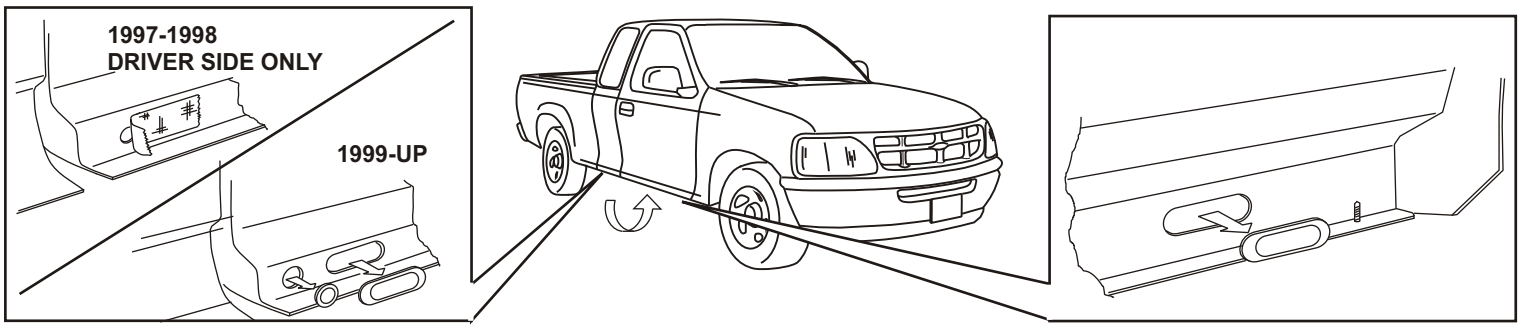

FIGURE 1 - PASSENGER SIDE SHOWN, DRIVER SIDE OPPOSITE
- STEP 2.** Remove black rubber plugs over two holes (three on '97-'98 ext cab driver side) on each inside face of sheet metal rocker panel. (See figure 1.)